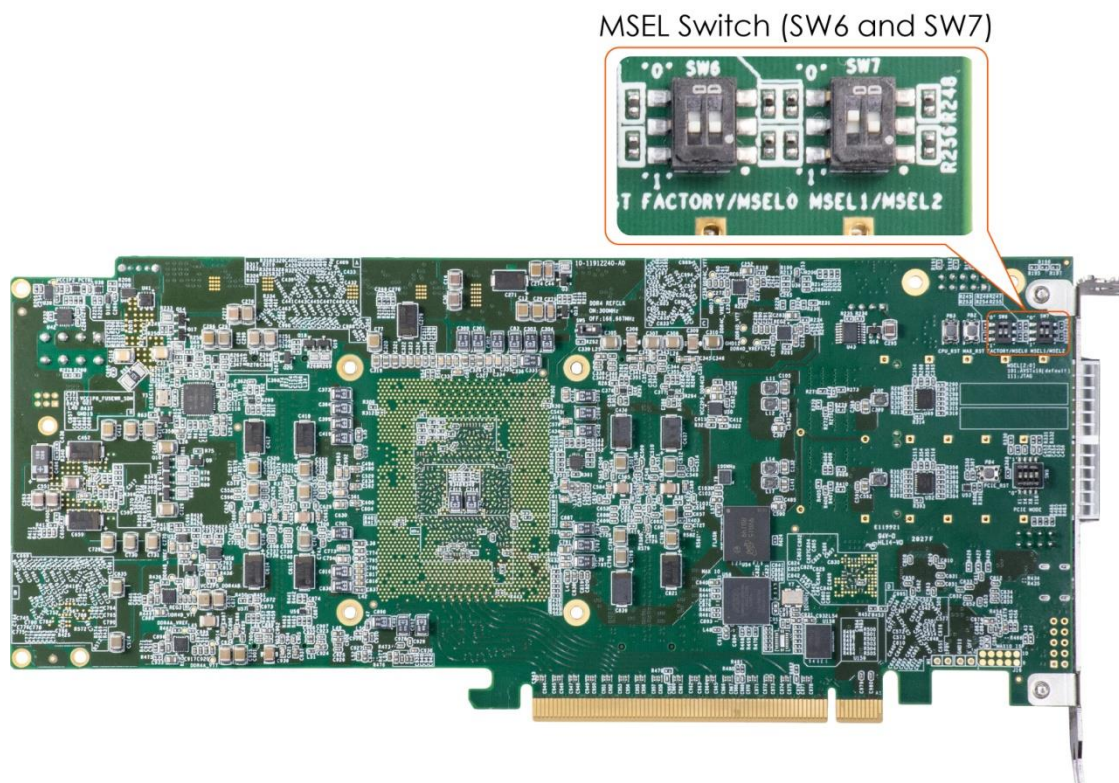

Figure 4-2 Position of the MSEL[2:0] switch
2. Set the FPGA configuration mode to AVSTx16 mode by setting **SW6** and **SW7** MSEL[2:0] as **101** as shown in **Figure 4-2** and Figure 4-3.